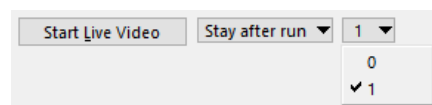

Figure 2. Controls when there is one live animator.
If the linked **Models** library supports Simulink or real-time (RT) simulation (with an RT computer or a driving simulator (DS) option), then a drop-down control is available on the **Run Control** screen for selecting the number of live animators. If the selected number is one, then two more controls appear for controlling the video (Figure 2). These controls are described in the documentation of the **Run Control** screen.